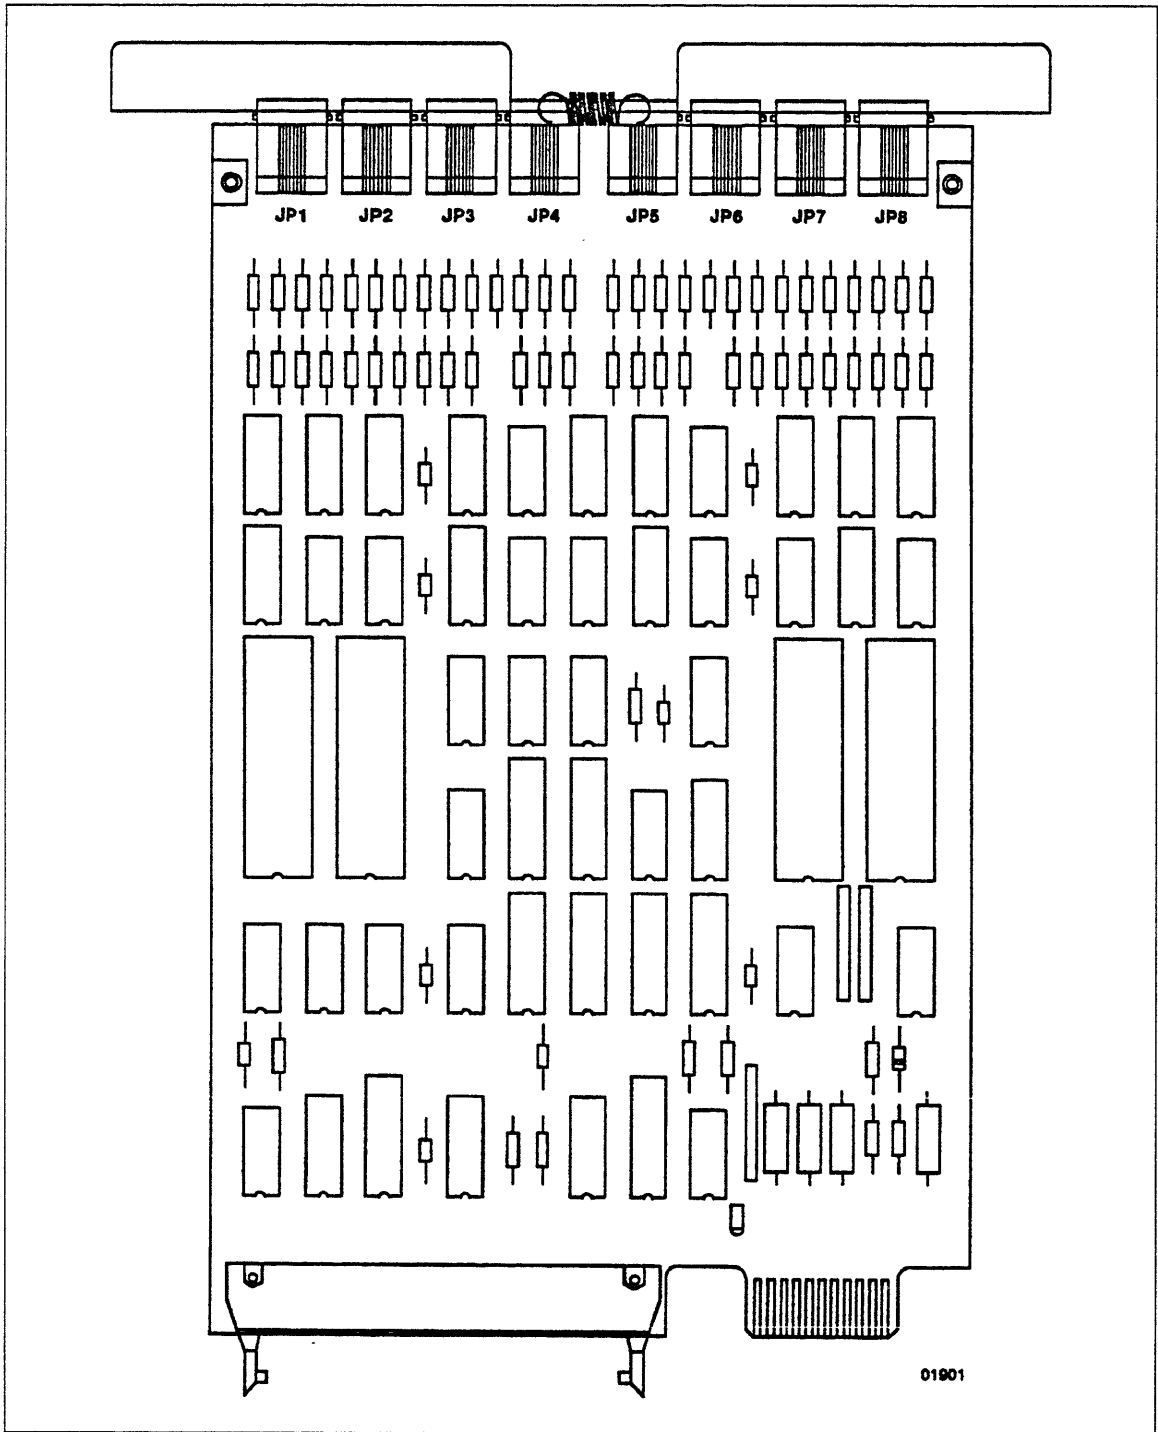

Figure 3-28. RS232-C, 8-Port LIM
The 8-port LIM (figure 3-28) requires no setup prior to installation.
2. Unpack LIM boards (figure 3-28), equipment labels, and FCO labels.